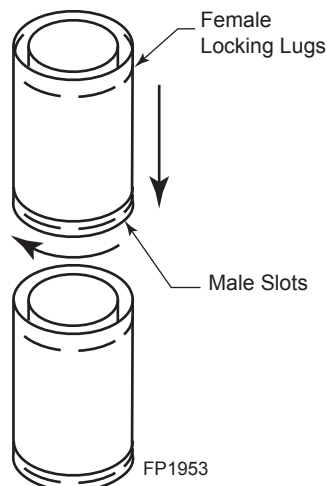

**Figure 14 -
- The maximum horizontal distance between the rear of the appliance and the termination is 20" (508 mm). *Figure 14.*